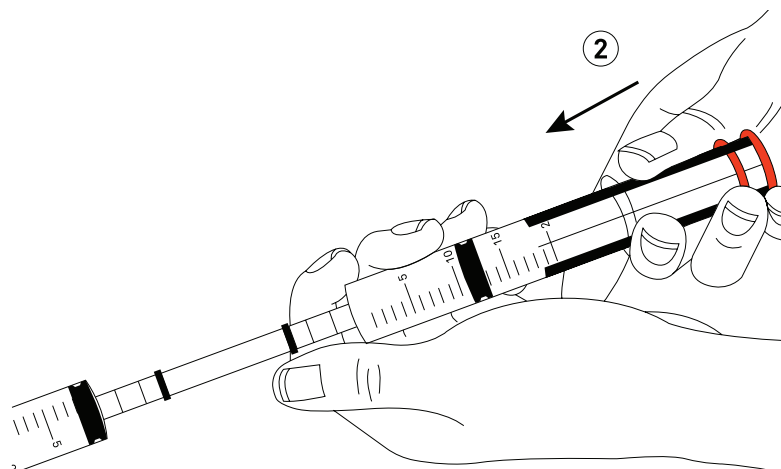

Figure 10 Release the plunger
12. Press the plunger stoppers in to allow the plunger to move, then let the plunger slowly move forward (Figure 10).